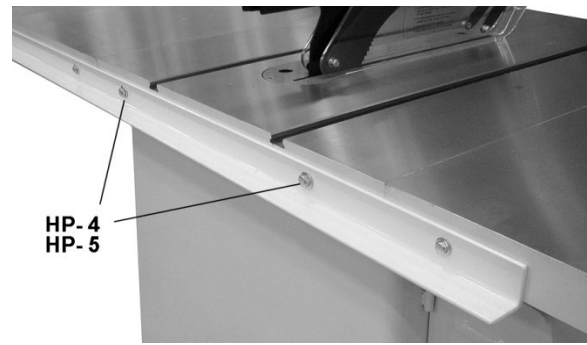

Figure 4
40. Secure back rail to pre-tapped holes in saw table with two 5/16 screws and flat washers (**HP-4/5**), as shown in Figure 4. Tighten screws securely with 1/2" wrench.